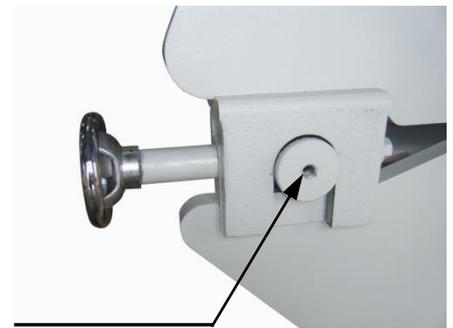

figure 15
2. Rotate the setback knobs counter-clock wise (**ccw**) to move the fingers toward the edge of the clamp block or clockwise (**cw**) to move them back. (fig. 15).